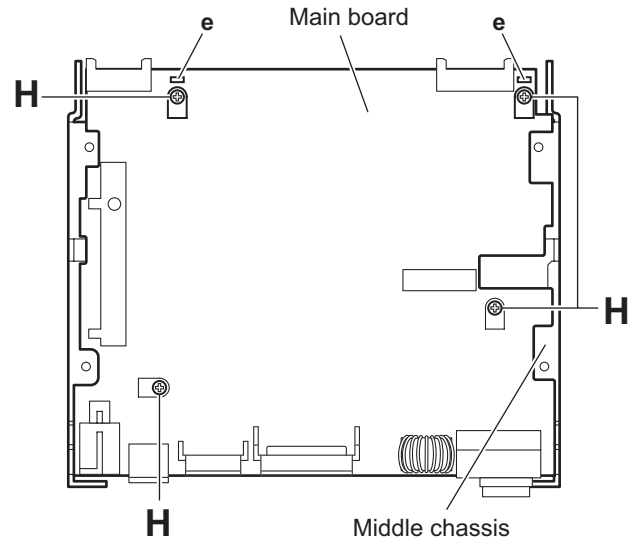

Fig.9
3.1.8 Removing the main board (See Fig.9)